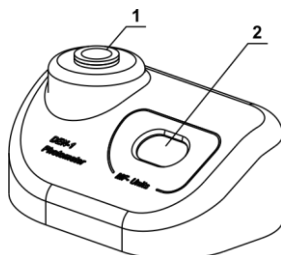

Fig. 2. Front panel
- 3.4.3. Insert the tube with the standard solution, corresponding to the calibration point value, into the socket of Densitometer (fig.2/1).
- Check if the **A-16** adapter is in the socket (Fig. 2/1). The device is calibrated for operation with the glass tubes 16 mm in external diameter. Refer to p. 3.4. when using different tubes.
- 4.3. The following indication can appear on the display (fig.2/2):
- 4.4. Shake the tube with the solution (it is recommended to use vortex, e.g. Personal vortex V-1 plus, for shaking) and insert it into the socket (fig.2/1). The McFarland value for the solution appears on the display (fig.2/2).